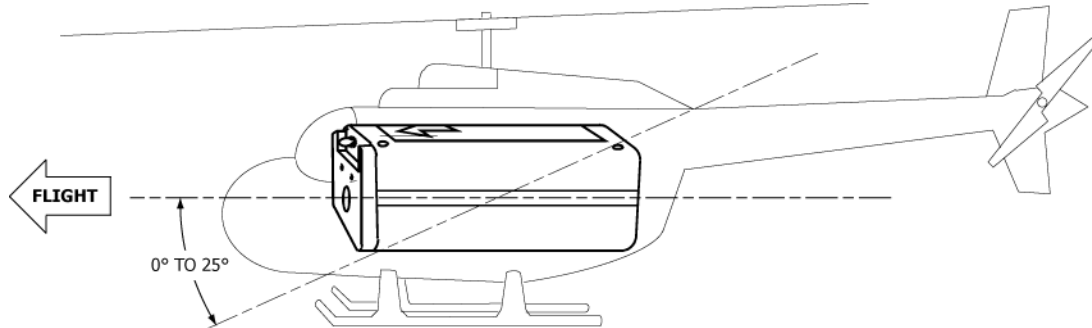

Figure 28 Orientation of ELT for Helicopter Installations
- 1) Mount the C406-2HM ELT parallel to the waterline of the fuselage, along the longitudinal axis, with the direction-of-flight arrow on the ELT pointing forward. See Figure 28.